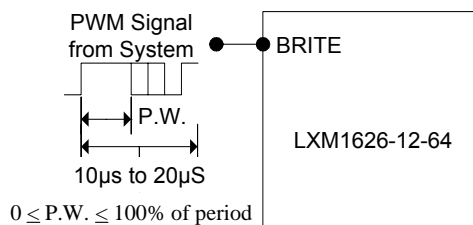

Figure 1A – PWM Brightness Control
- The brightness control may be a voltage output DAC or other voltage source, a digital pot or 500K manual pot. The inverter contains an internal 215K pull-up to 3V to bias the pot. A 3.3V Logic Level PWM signal from a micro-controller may also be used as shown in Figure 1A.